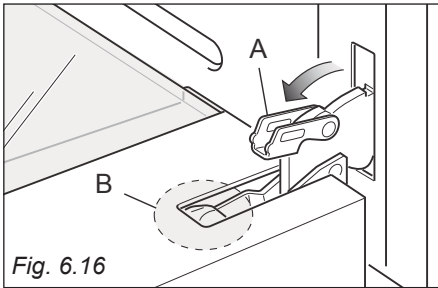
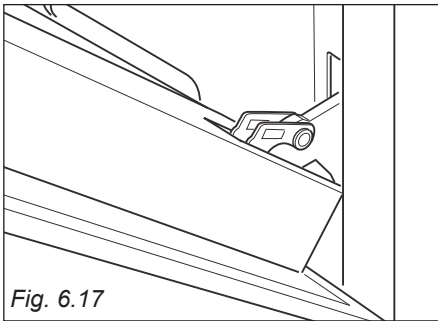

Fig. 6.16
Fig. 6.17
- Open the lever “A” completely on the left and right hinges (fig. 6.16).
- Gently close the door (fig. 6.17) until left and right hinge levers “A” are hooked to part “B” of the door (fig. 6.16).